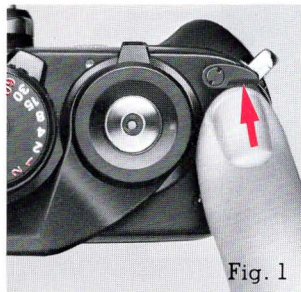
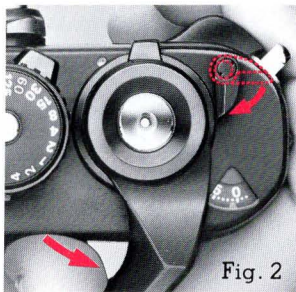

Fig. 1
Fig. 2
When there is a substantial difference between the main subject and the background, unimportant bright spots or dark spots are likely to fool the camera's metering, resulting in underexposure or overexposure (see Fig. 1). One way to make exposure compensation is to use the memory lock. This control allows you to lock in an exposure reading with the camera on automatic control. To compensate for an excessively bright or dark background, center the main subject in the viewfinder or move in close to the subject, depress the memory lock button and hold it in; then recompose and shoot (see Fig. 2).
(Fig. 1)
(Fig. 2)
2. Then to recock the shutter without advancing the film, push the multiple exposure lever forward (Fig. 1), and stroke the advance lever. Immediately the multiple exposure lever will spring back to its normal position (Fig. 2).